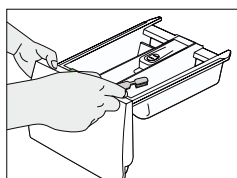
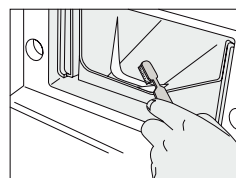

Fig. 16
Fig. 17
- Clean the drawer recess with a small brush. (Fig. 16 & Fig. 17)